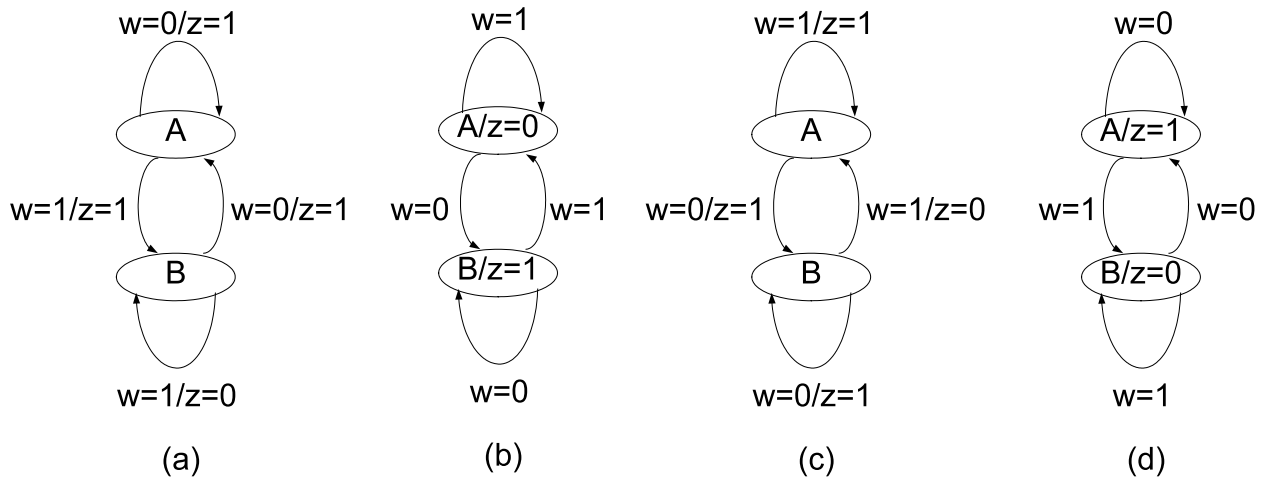

Figure 16 - State transition diagrams for question 20.
1. Figure 16(a)
2. Figure 16(b)
3. Figure 16(c)
4. Figure 16(d)